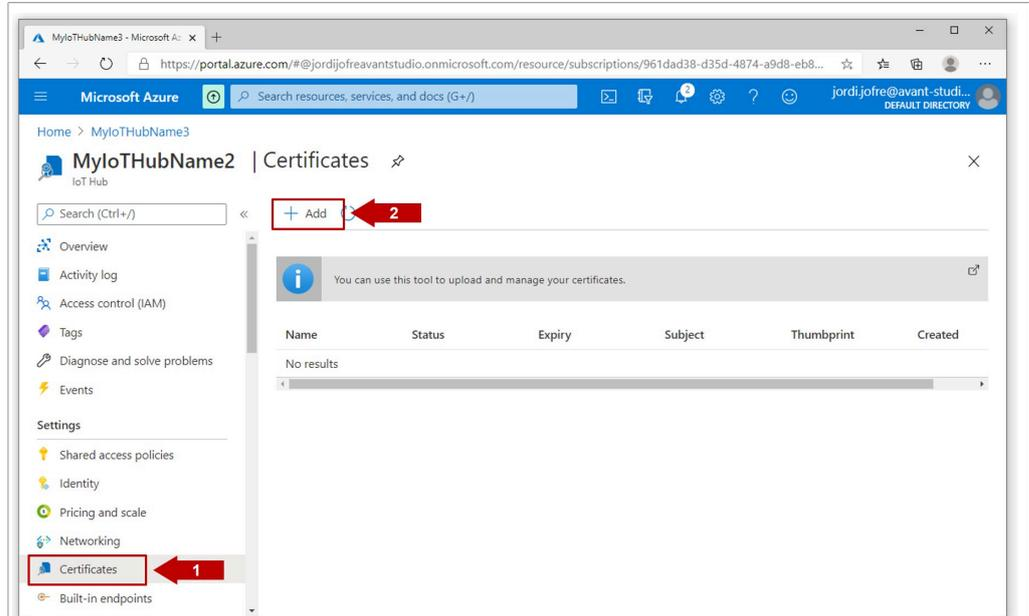

Figure 48. Upload a root CA certificate
1. In your Azure IoT Hub resource, click in **Certificates** menu (1) and then click **Add** (2) as shown in Figure 48: